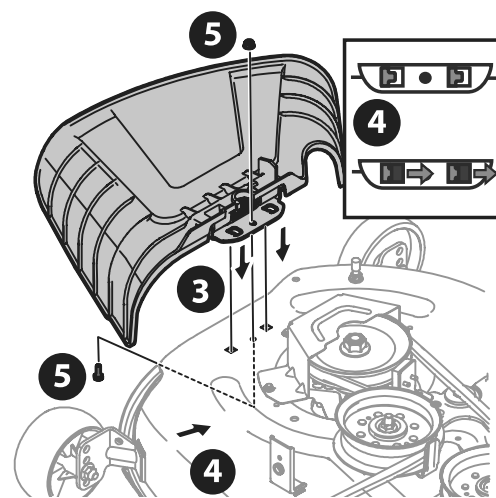

Figure 10
3. Place the chute deflector on the deck, be sure to insert the tabs on the chute deflector into the holes on the deck (Figure 10).
4. Slide the chute deflector toward the rear of the tractor until the bolt hole in the chute deflector aligns with the hole in the deck (Figure 10).